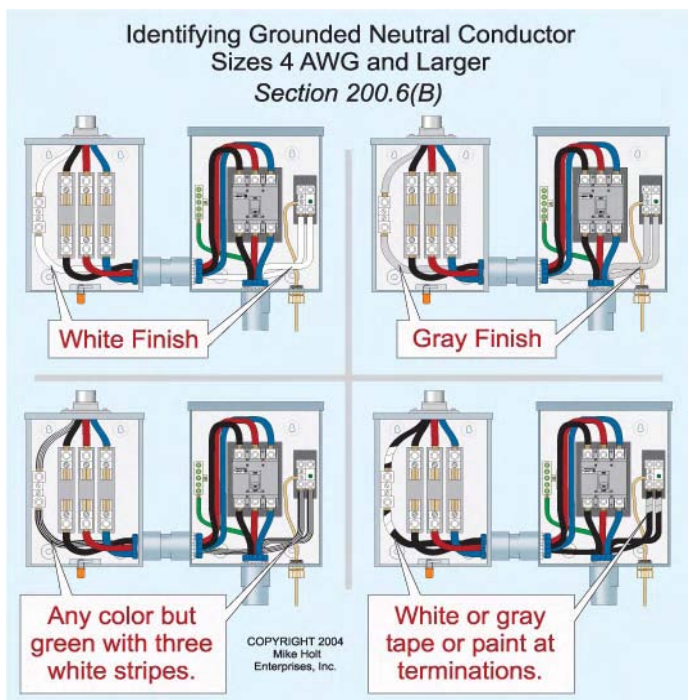

Figure 200-7
(B) Larger than 6 AWG. grounded neutral conductors larger than 6 AWG must be identified by one of the following means: **Figure 200-7**
- (1) A continuous white or gray outer finish along its entire length
- (2) Three continuous white stripes along its length
- (3) White or gray tape or paint at terminations.